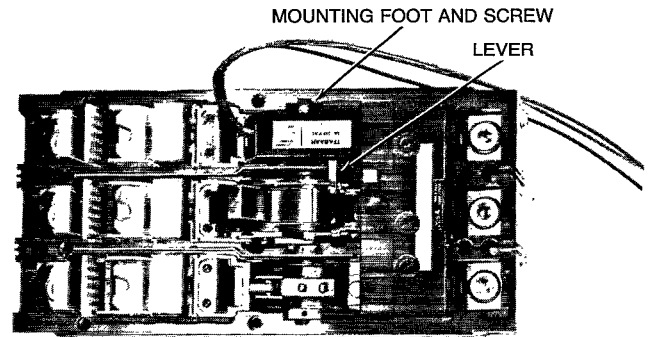
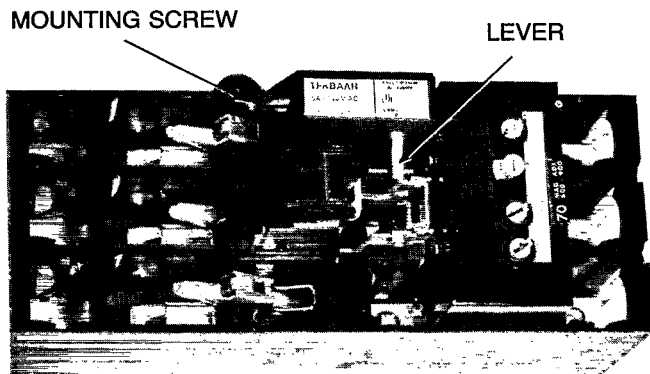

Figure 5 THLC/TLB Breaker types.
Figure 4
5. Install accessory using locating notch for positioning. Insure that accessory lever rides on top of latch as shown. Push accessory into place and secure with mounting screw. (Fig. 4 for F225 line, Fig. 5 for THLC/TLB)